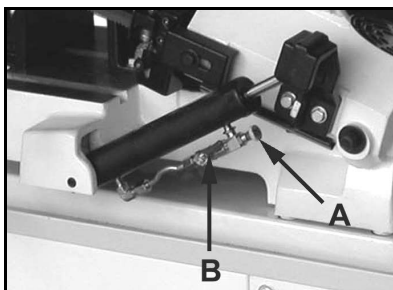

Fig 11
You can control the sawblade downward feeding with the valve control knob (A, Fig 11) and lock the saw with the on/off valve (B).